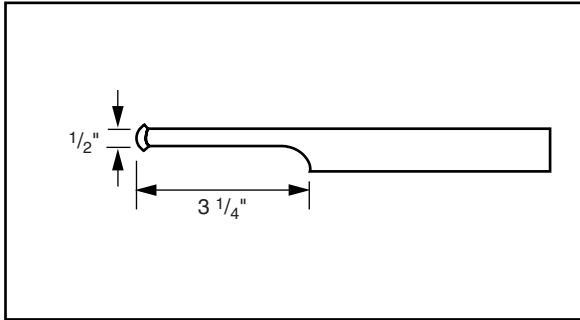

Figure 23.3 The finished tail.
1. The bolt is made from an 8-inch piece of $\frac{1}{4}$ - \times 1-inch square bar. Forge the tail of the bolt first. The finished tail should be $\frac{1}{4} \times \frac{1}{2}$ inch and at least 3 $\frac{1}{4}$ inches long (Fig. 23.3).